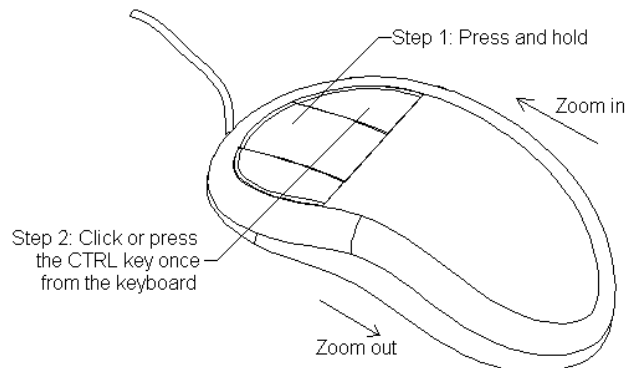

Figure 1-10 Using the three-button mouse to perform the zoom in and zoom out operations
4. Press and hold the middle mouse button and then click the right mouse button once to invoke the **Zoom** mode. Now, drag the mouse up to zoom in the view of the model. Similarly, drag it down to zoom out the view of the model. You can also invoke the zoom tool by first pressing and holding the CTRL key and then pressing and holding the middle mouse button. Now, release the CTRL key and drag the cursor to zoom in and out of the view of the model. Figure 1-10 shows how to use a three-button mouse to zoom in and zoom out functions.